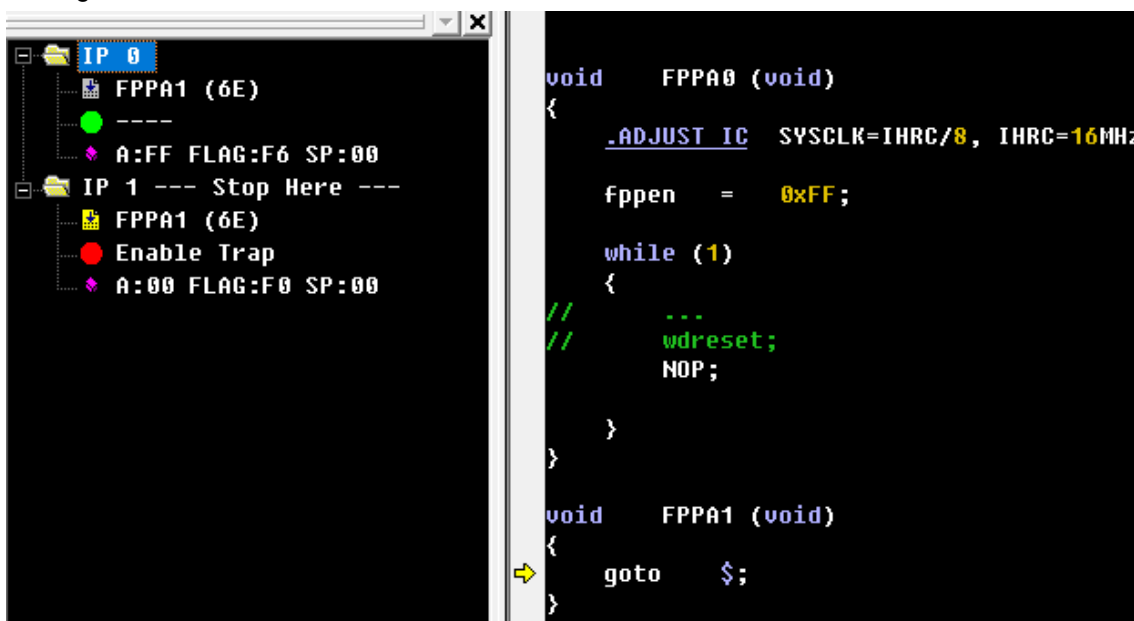

Fig.4-16. Mult. Traps window
- In the Mult Traps mode, you can monitor two FPPA at the same time. The Mult Traps window is shown in figure 4-16.